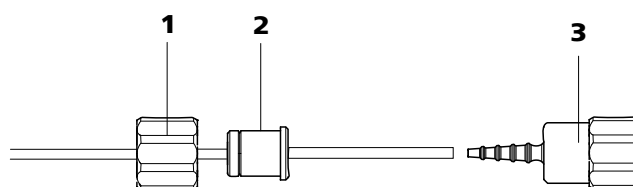

Figure 23 Install pump tubing connection without filter
- **Case B:** a 6.2744.160 pump tubing connection **without filter** (see Figure 23, page 43).